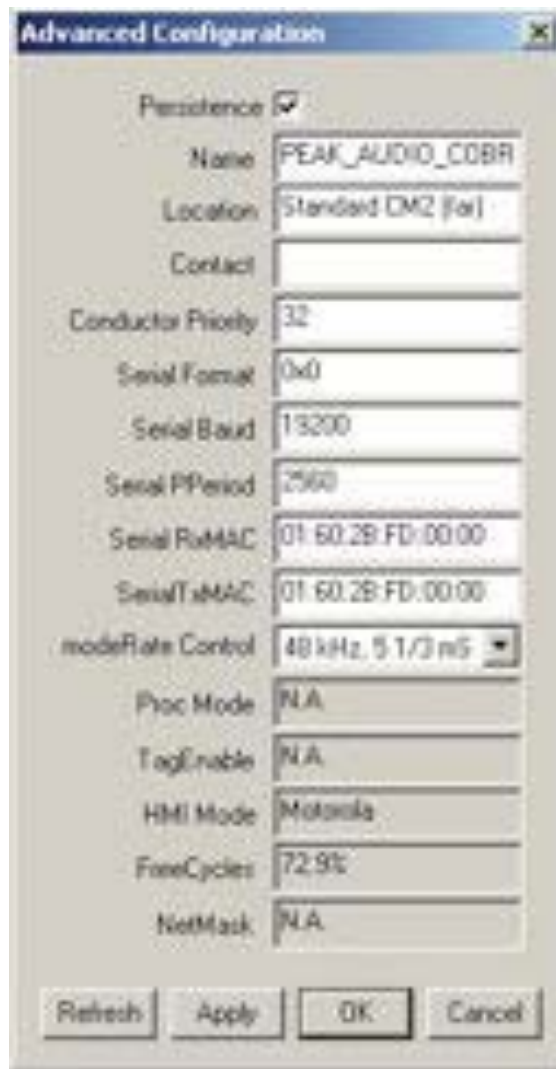

Figure 5-4: Global Interface settings
- Main Interface settings: This section covers the more advanced variables not usually associated with bundle management and which apply to the CobraNet™ device globally (see Figure 5-4). These are explained in detail in the CNDISCO manual, but 2 are of particular importance to the ION series interfaces, ie...
to save settings via “persistence” (see previous section and Figure 5-4). If the persistence option is enabled, then the last set of values/settings can be stored into the Cobranet flash and will be restored on power up. Note that these settings can take up to 1 minute to save, as they are stored in between other processes.